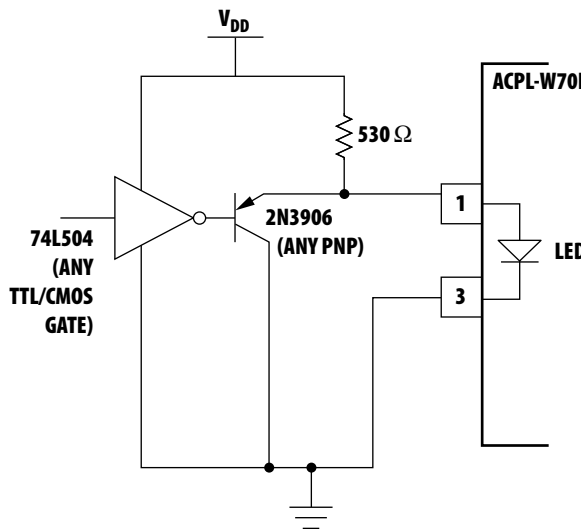

Figure 15. TTL interface circuit for the ACPL-W70L families.
1. Use of drive circuits where current is shunted from the LED in the LED “off” state (as shown in Figures 15 and 16). This is beneficial for good CM_H .
Using any one of the drive circuits in Figures 15-17 with $I_F = 6 mA$ will result in a typical CMR of $10 kV/\mu s$ for ACPL-W70L AND ACPL-K73L, as long as the PC board layout practices are followed. Figure 15 shows a circuit which can be used with any totem-pole-output TTL/LSTTL/HCMOS logic gate. The buffer PNP transistor allows the circuit to be used with logic devices which have low current-sinking capability. It also helps maintain the driving-gate power-supply current at a constant level to minimize ground shifting for other devices connected to the input-supply ground.